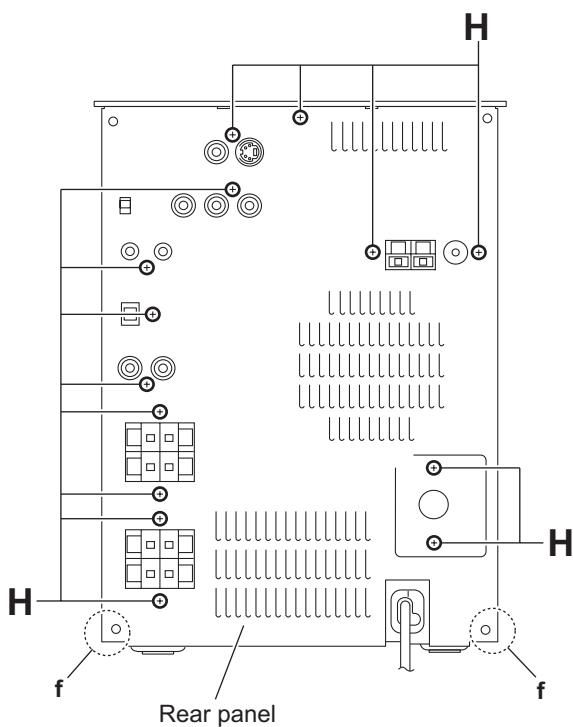

Fig.13
3.1.6 Removing the rear panel (See Fig.13)